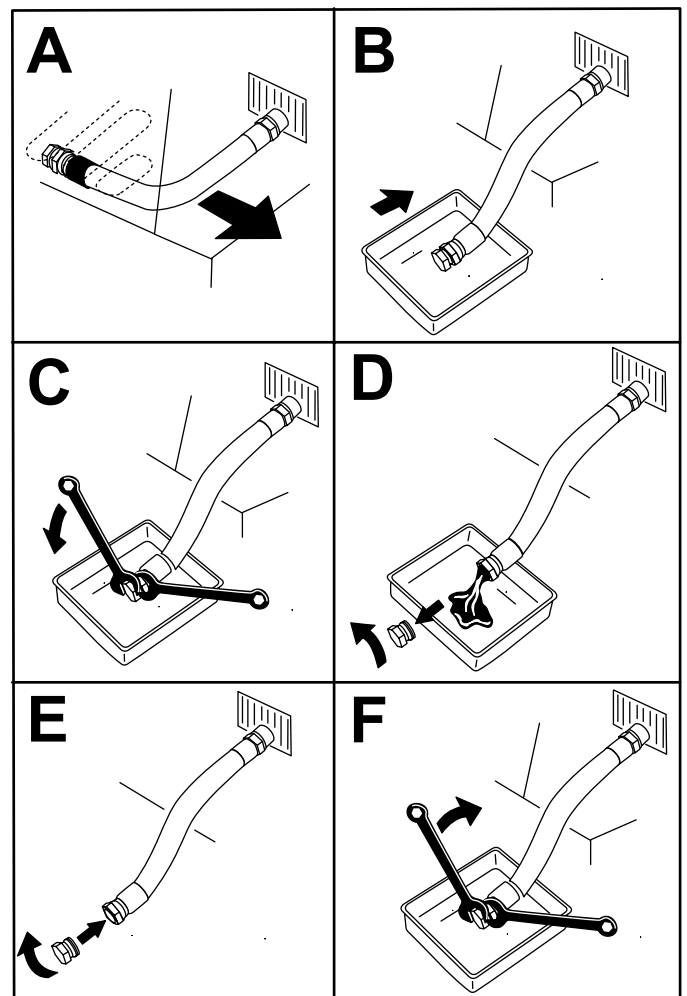

Figure 38
4. Drain the oil from the engine (Figure 38).